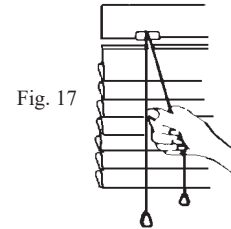

Fig. 17
- To tilt the slats to fully closed in one direction, simply pull one cord down. By pulling the second cord, it will tilt the slats in the opposite direction (fig. 17).